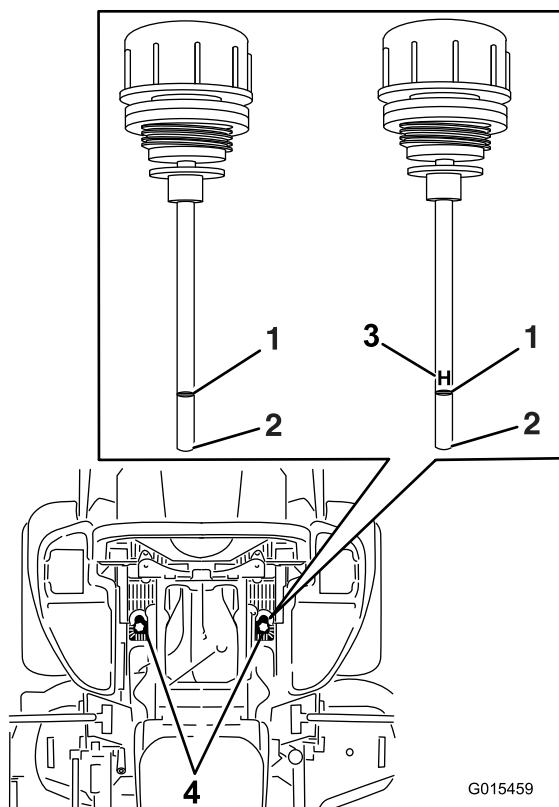

Figure 81
6. Clean the area around the dipsticks of hydraulic system reservoirs (Figure 81).
7. Remove one dipstick from the hydraulic reservoir (Figure 81).
9. Remove the dipstick and look at the end (Figure 81). If the oil level is at the add mark, slowly pour only enough oil into the hydraulic reservoir to raise the level to the full or **H** line.